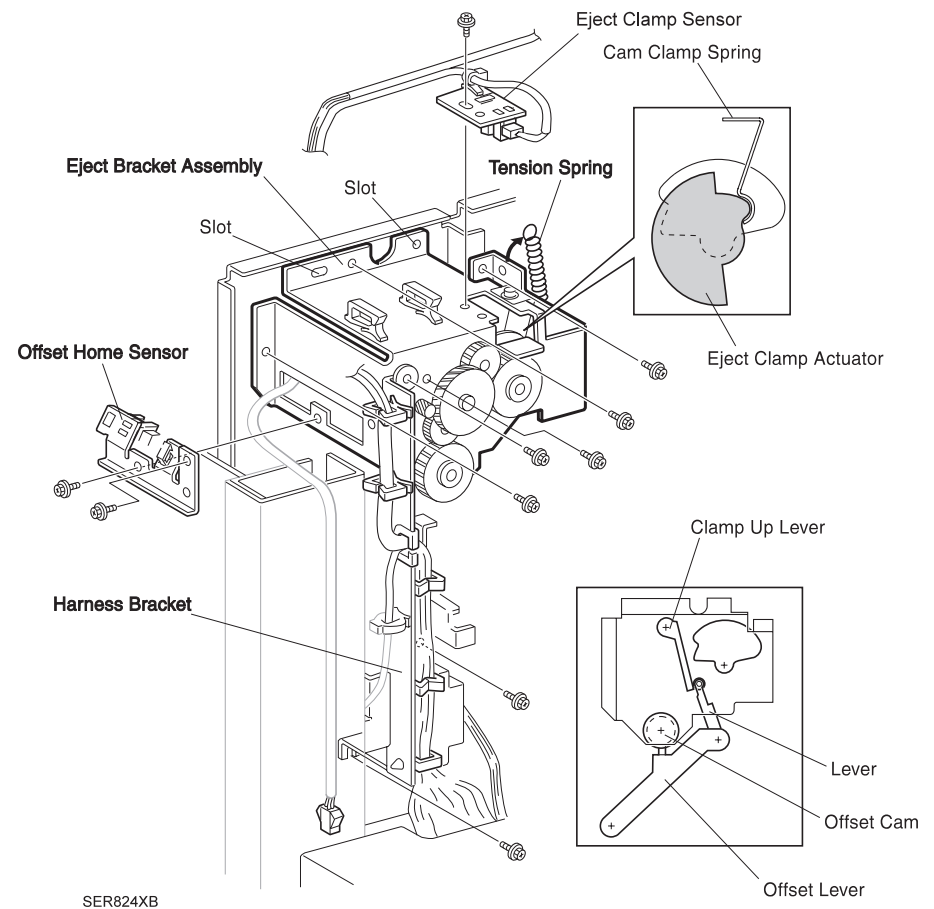

Figure 3-84. Eject Bracket Assembly
1. Place the Eject Clamp Actuator as the Cam Clamp Spring touches the actuator as shown in the Figure 3-84.
3. Install the Lever as the Lever touches the Clamp Up Lever as shown in the Figure 3-84.